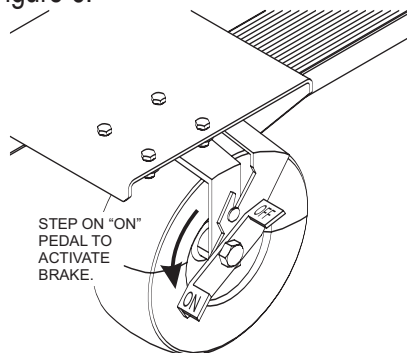

Figure 6. Setting the Brake On
1. Step on the ON position of the brake on the wheel of the MBC cart to keep the cart in place during assembly. See Figure 6.